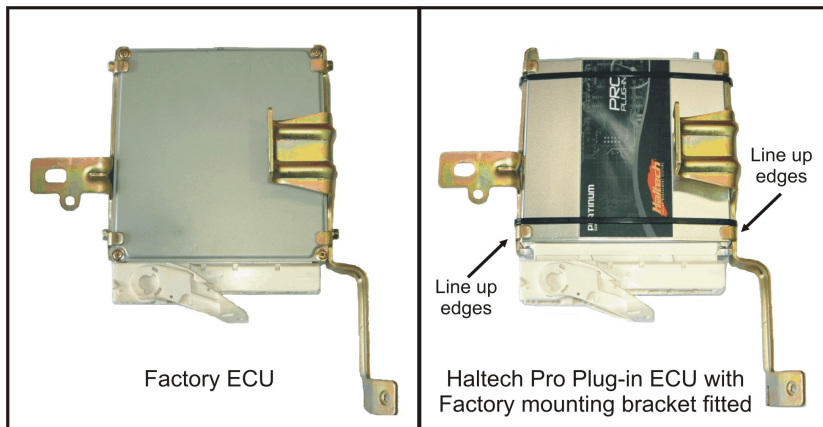

Figure 4 – Factory Mounting Bracket Attachment
4. Remove the 2 piece mounting bracket from the factory ECU. This is held in place by 4 x 8mm bolts. Once removed re-mount the bracket to the Haltech ECU with the use of double sided tape along the mating surface of the bracket and cable ties to secure, making sure that the bottom lugs line up with the bottom of the Haltech ECU case as shown in figure 4.